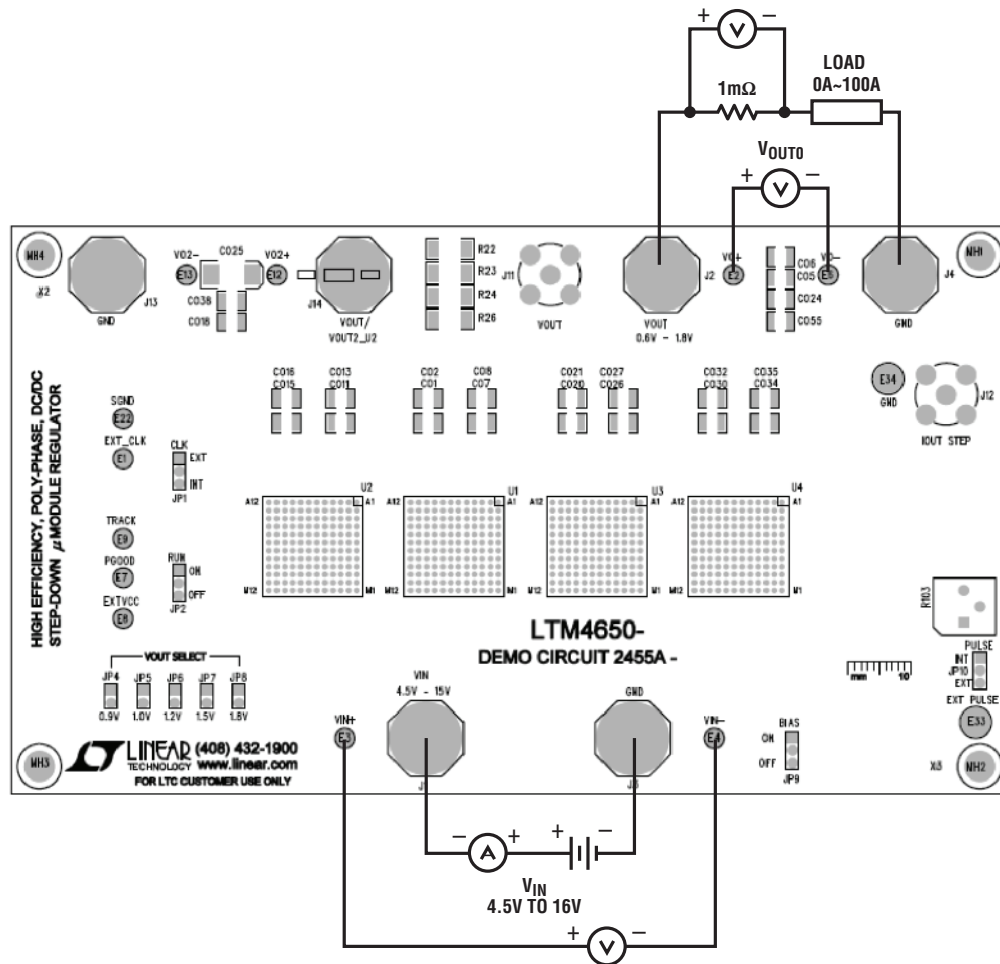

Figure 2. Test Setup of DC2455A-A
Demonstration circuit DC2455A-A is easy to set up to evaluate the performance of PolyPhase operation of the LTM4650EY-1. Due to the high input/output current, user should select the proper input supply/load/cable which can sustain the full load operation. It's recommended to pull load current from J2 and J4. The load current pulled from J5 and J6 shouldn't exceed 25A. Please refer to Figure 2 for proper measurement setup and follow the procedure below:
2. With power off, connect the input power supply, load and meters as shown in Figure 2. Preset the load to 0A and V_{IN} supply to 12V.